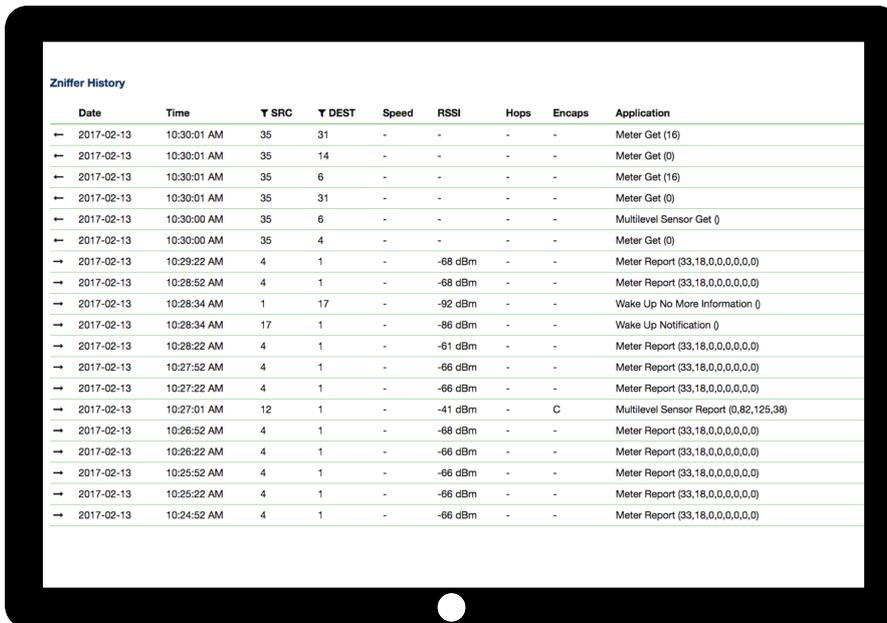

Figure 8.6: Packet Sniffer
- The device is working but constantly sending unsolicited messages. This is a rare but not impossible behavior. The simplest way to find out is to consider the packet sniffer. Figure 8.6 shows the Analytis >> Sniffer View of the **Z-WAVE EXPERT USER INTERFACE** .
Heavy polling of devices causes network traffic leading to delays. A simple look on the sniffer as shown in Figure 8.6 reveal if there is too much polling.